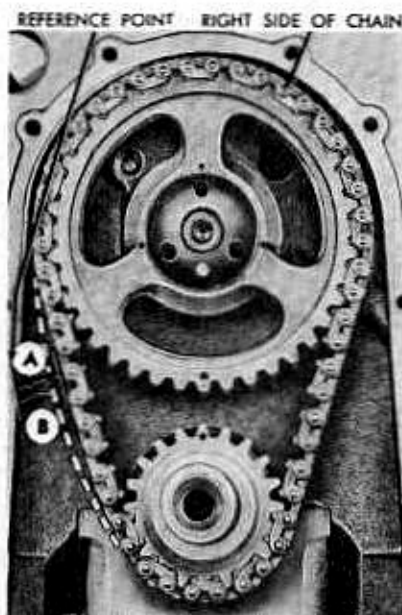

FIG. 40—Timing Chain Deflection
4. Establish a reference point on the block and measure from this point to the chain (Fig. 40).